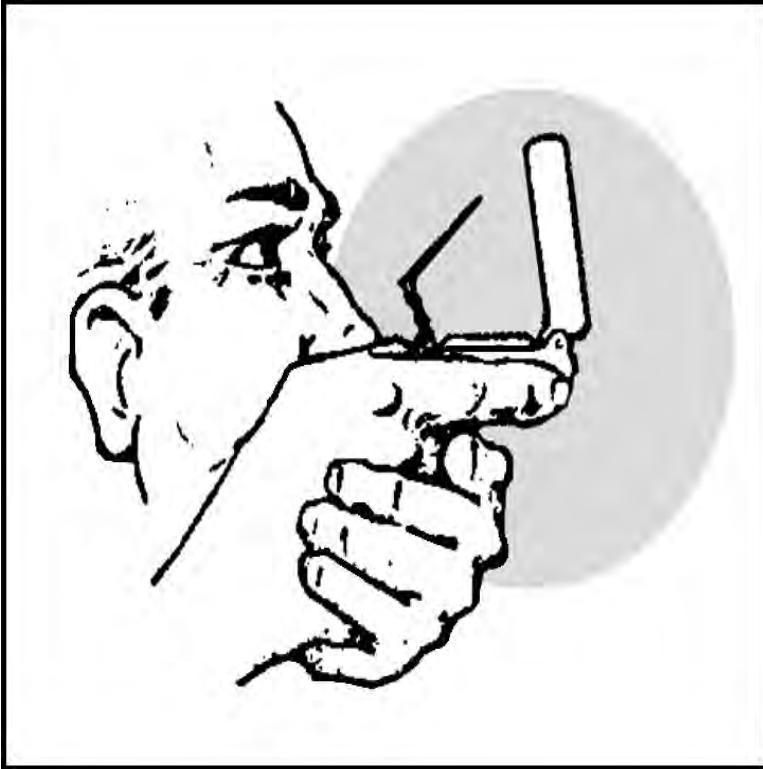

Figure 071-COM-1003-3. Compass-to-cheek method.
3. Determine an azimuth with the compass-to-cheek method (Figure 071-COM-1003-3).